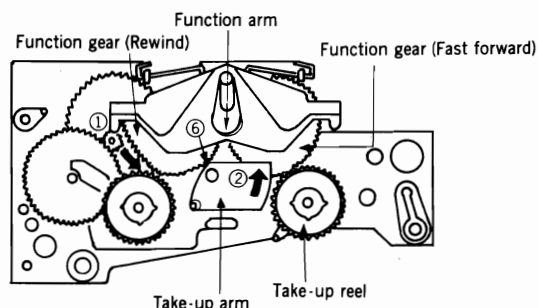
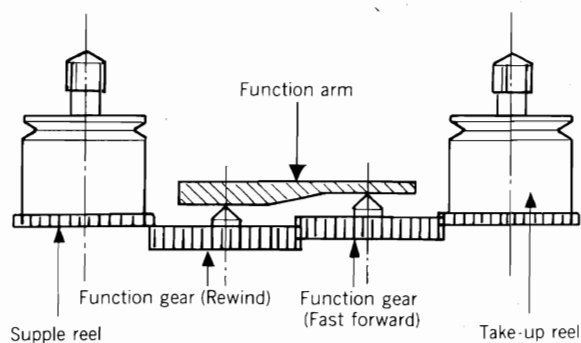
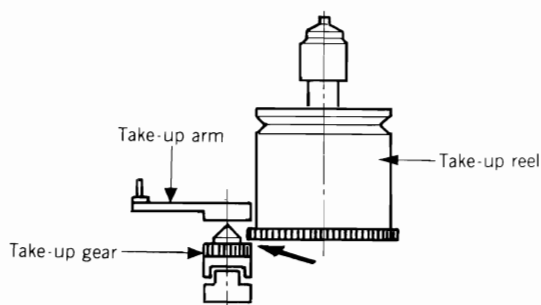
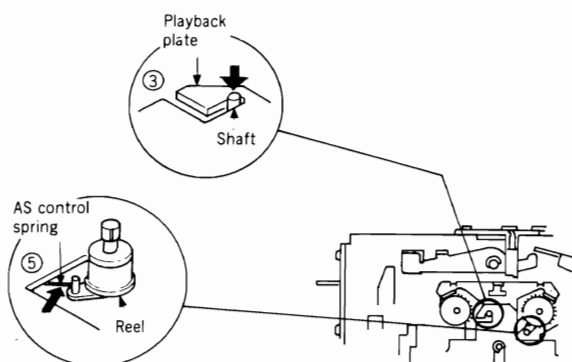

Fig. 32
Fig. 33
Fig. 34
Fig. 35
- ① Turn the function arm (shown in Fig. 32) in the direction of the arrow until it touches the point shown by arrow ⑥ on the take up arm. The reel, the function gears and function arm go into the mode shown in Fig. 33.
- ② Turn the take-up arm (shown in Fig. 32) in the direction of the arrow until the take-up gear and reel under-neath separate from each other shown in the Fig. 34.
- ③ Take out the take-up arm operating shaft (shown in Fig. 34) from the hole on the playback plate as shown in Fig. 35, and fix the gear assembly using screws.
- ④ Fix the counter belt onto the reel (take-up side).
- ⑤ Depress the stop button to get it into the stop mode, and check that the auto-stop control spring (shown in Fig. 35) presses the floating cam under the reel in the direction of the take-up side as shown in the figure.